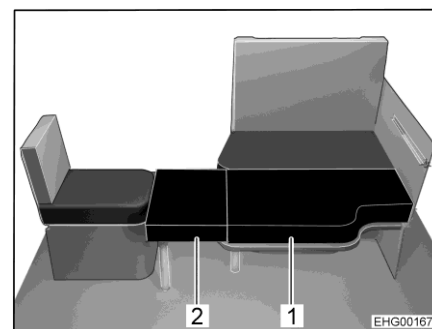
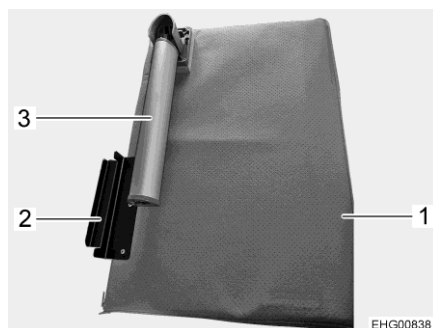

Fig. 124 After conversion
Fig. 125 Additional board
- Unfold the support foot (Fig. 125,3) on the additional board (Fig. 125,1).
- Attach the support bracket (Fig. 125,2) of the additional board to the individual seat and place the additional cushion (Fig. 124,2) on the table top.
- Place the second additional cushion (Fig. 124,1) on the table top.